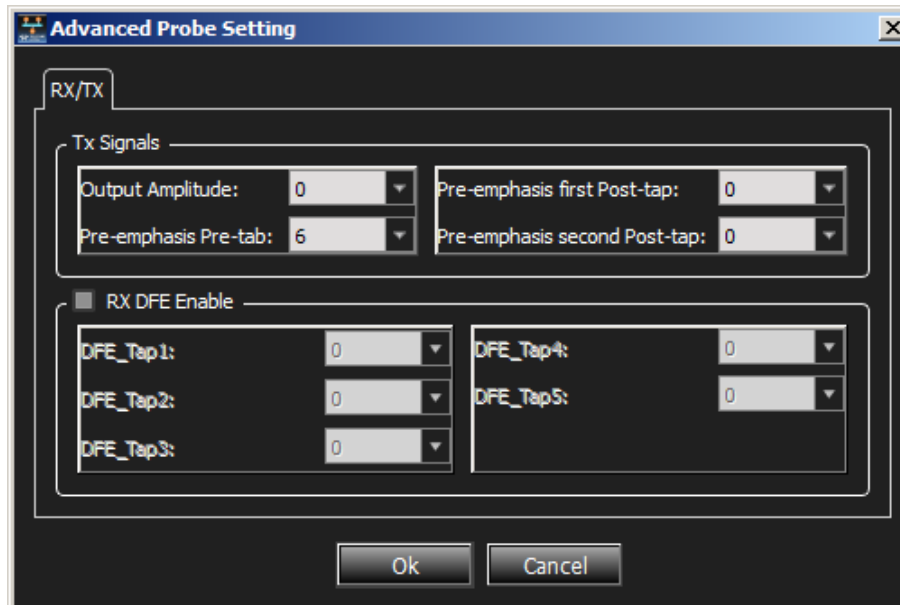

Figure 2.26: Advanced Probe Setting dialog for 10 GigE device.
- ☐ Advanced: Selecting **Advanced** displays the Advanced Probe Setting dialog. (See Figure 2.26.) Enter the desired values for each of the parameters.